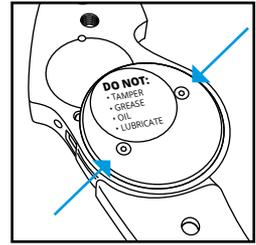

Figure 1
2. Use the supplied hex screwdriver to loosen the two screws on the medial (stainless steel) cover plate and remove it (see Fig. 1).